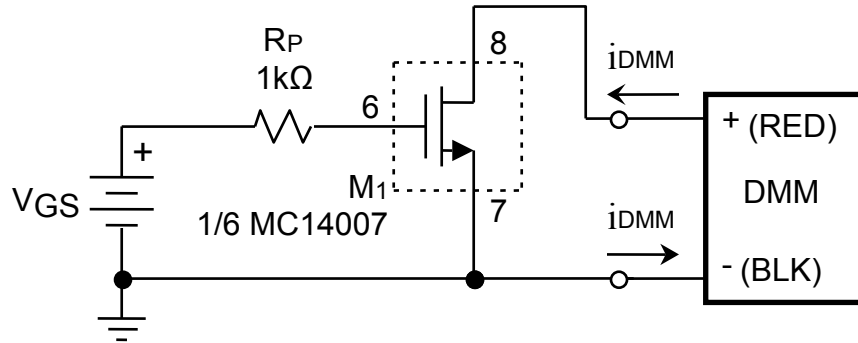

Figure 4-1.
- L1. Build the circuit shown in Fig. 4-1, below. This circuit will be used to determine the process parameters $k'_n(W_n/L_n)$ and threshold voltage V_m for one of the N-Channel MOSFETS within the MC14007 MOSFET array.